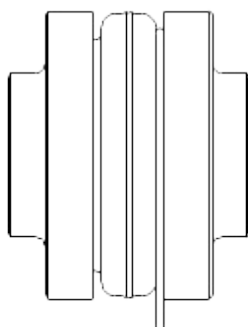

Fig. 2
- To facilitate the assembly of large size couplings, the prior heating of the hubs is advisable. However, avoid exceeding a temperature of 100 °C. After hubs have cooled down, the elastic sleeve should be inserted into one of the hubs (whereby the steel ring should be hanging loose on the sleeve for sleeves type SE) (see fig.2 § 7 - Coupling Disassembly page 4).